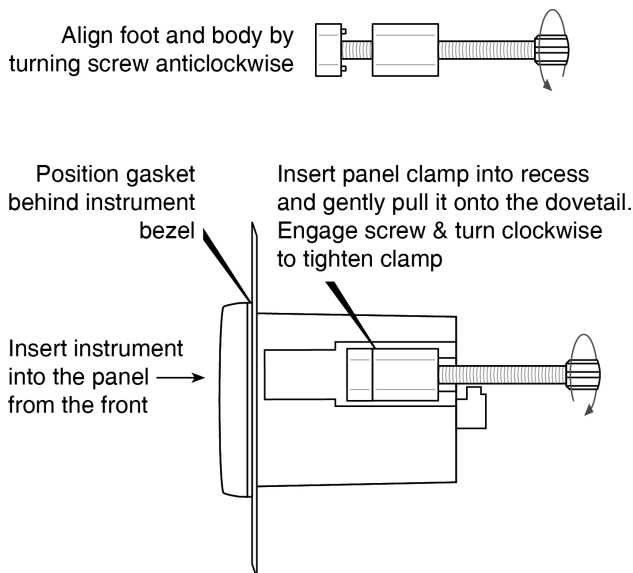

Fig 4 Fitting panel mounting clamps
- Place a clamp in the recess on each side of the Tachometer, pulling gently to slide it onto the dovetail as shown in Fig 4. Push the knurled screw slightly forward to engage the thread and tighten by turning clockwise until it is just finger tight. When all clamps are fitted ensure that the gasket behind the front panel bezel is correctly positioned before fully tightening the clamps to secure the instrument. The maximum recommended clamp tightening torque is 22cNm (1.95 lbf in) which is approximately equivalent to finger-tight plus one half turn. **Do not over tighten.**